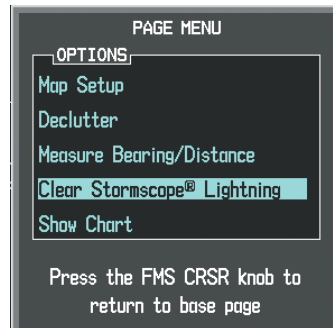

Figure 6-48 Navigation Map Page Options Menu
If heading input is lost, strikes and/or cells must be cleared manually after the execution of each turn (Figure 6-48). This is to ensure that the strike and/or cell positions are depicted accurately in relation to the nose of the aircraft.
- 2) Select 'Clear Stormscope Lightning' (Figure 6-48).